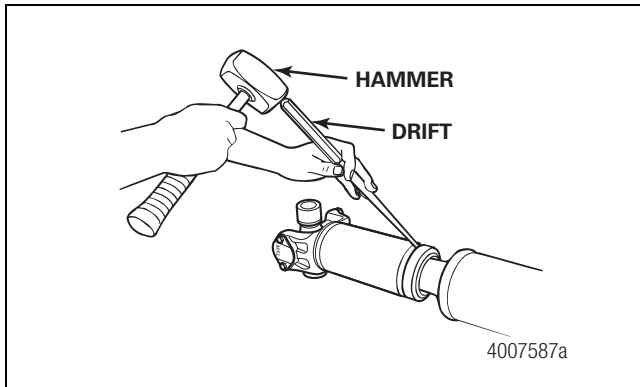

Figure 3.3
1. Use a brass or copper hammer and a drift to tap the shroud off the slip seal. Be careful not to damage the shroud. Figure 3.3.